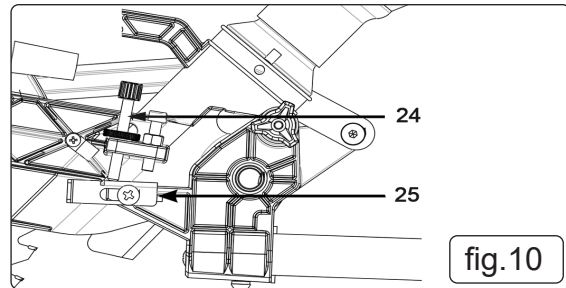

fig.10
- 6.9.1. Move the cutting depth limiter (fig 10 - 25) by unscrewing the Philips headed screw and move the limiter inside.
- 6.9.2. Loosen the knurled nut on limiter screw (fig 10 - 24) and turn the screw in or out to set the required depth. Re-tighten the knurled nut.